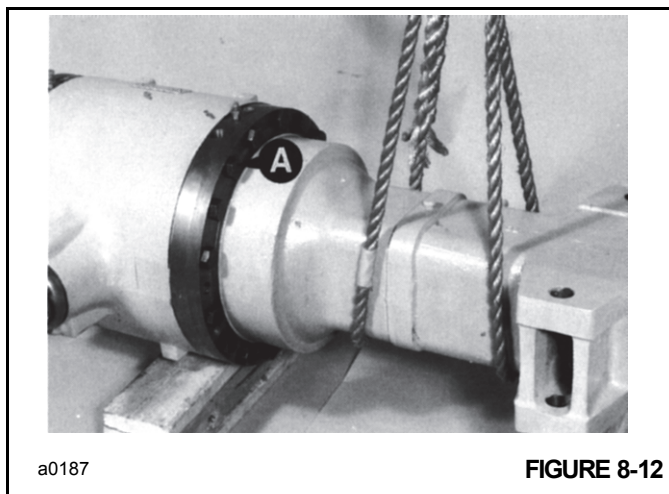

FIGURE 8-12
- a. Support the axle arm and remove bolts **A** Figure 8-12.